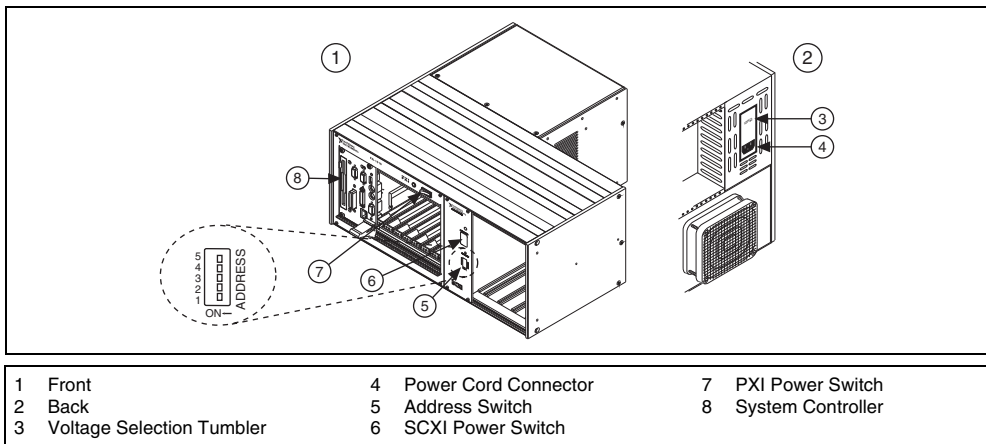

Figure 4. PXI/SCXI Combination Chassis Setup
2. Set the SCXI chassis address switch positions to the desired address. In Figure 4, all switches are shown in the off position.